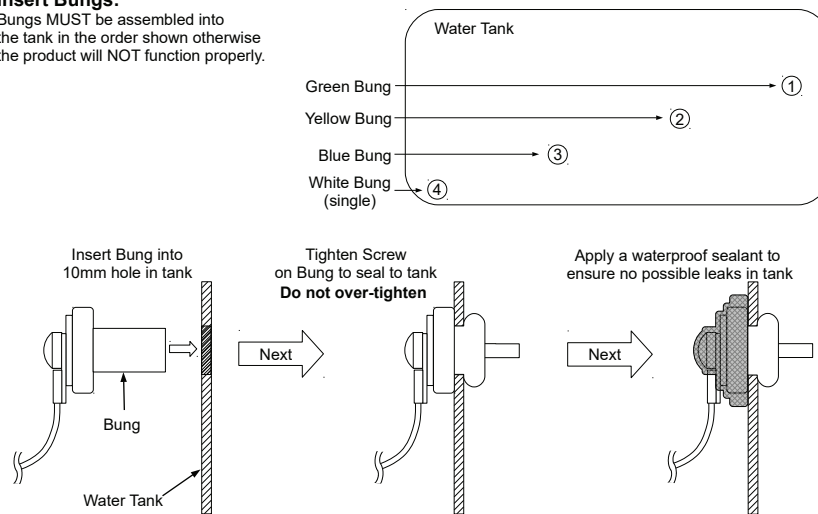

Figure 6
4. Fit the four bungs to the holes as detailed in Figure 6. Pay particular attention to which bung goes into which hole, matching the wire colours as shown in Figure 6.